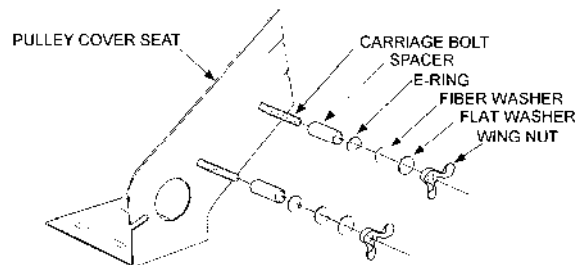

Figure 12
2. Install two 5/16-18 x 1-3/4 carriage bolts through the holes in the pulley cover seat. See Figure 12. Place a spacer over the bolt shafts and temporarily install two 5/16 fiber washers, two 5/16 wing nuts, and two E-rings as shown.